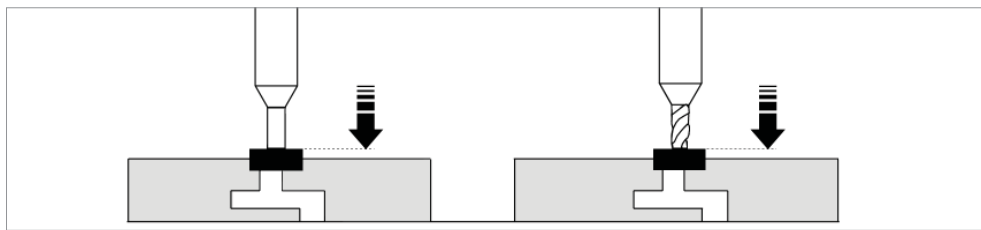

Fig. 16
- 8) Hold the lever (J) tight, turn the central nut (N) anticlockwise until the cutter skims the key in the right-hand clamp (Fig. 16). Release the lever (J) and turn off the motor.
- 9) Hold nut (N) still and lock the bottom nut (H2).